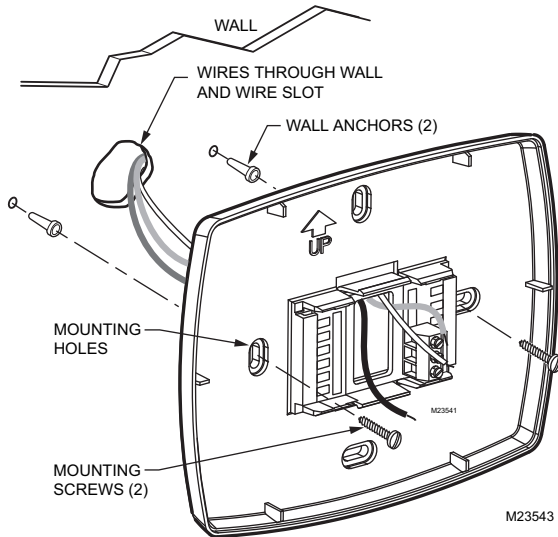

Fig. 7. Mounting wallplate.
4. Position the wallplate over the holes, pulling wires through the wiring opening. See Fig. 7.